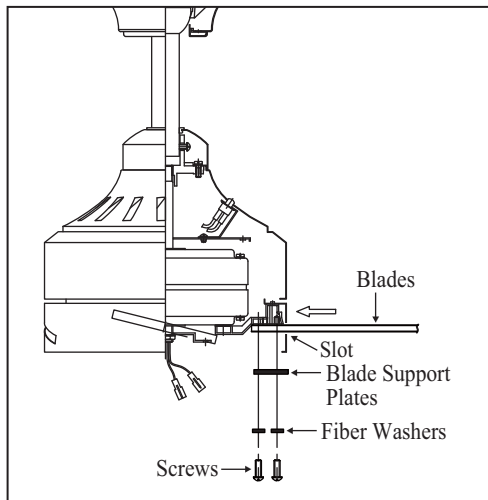

Figure 21
1. Insert the blade through the blade slot in the decorative housing. Align the holes in blade and blade arm, place the blade support plate on blade as showing in Figure 21, making sure the holes are also aligned and secure with fiber washers and screws provided.